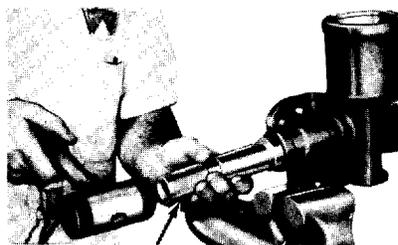

FIG. 26—Sector Shaft Seal Installation
9. Install the sector shaft seal (Fig. 26). Install the snap ring.